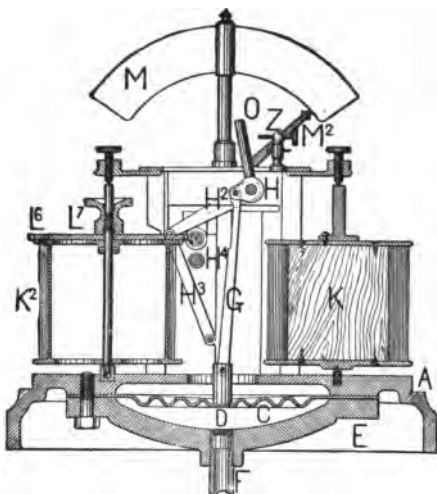

FIG. 74.—EDSON'S RECORDING AND ALARM GAUGE. (Vertical Central Section.)
**A.** There is a diaphragm **D**, Fig. 74, so corrugated that its movement under pressure shall be practically uniform for equal increases of pressure. From this